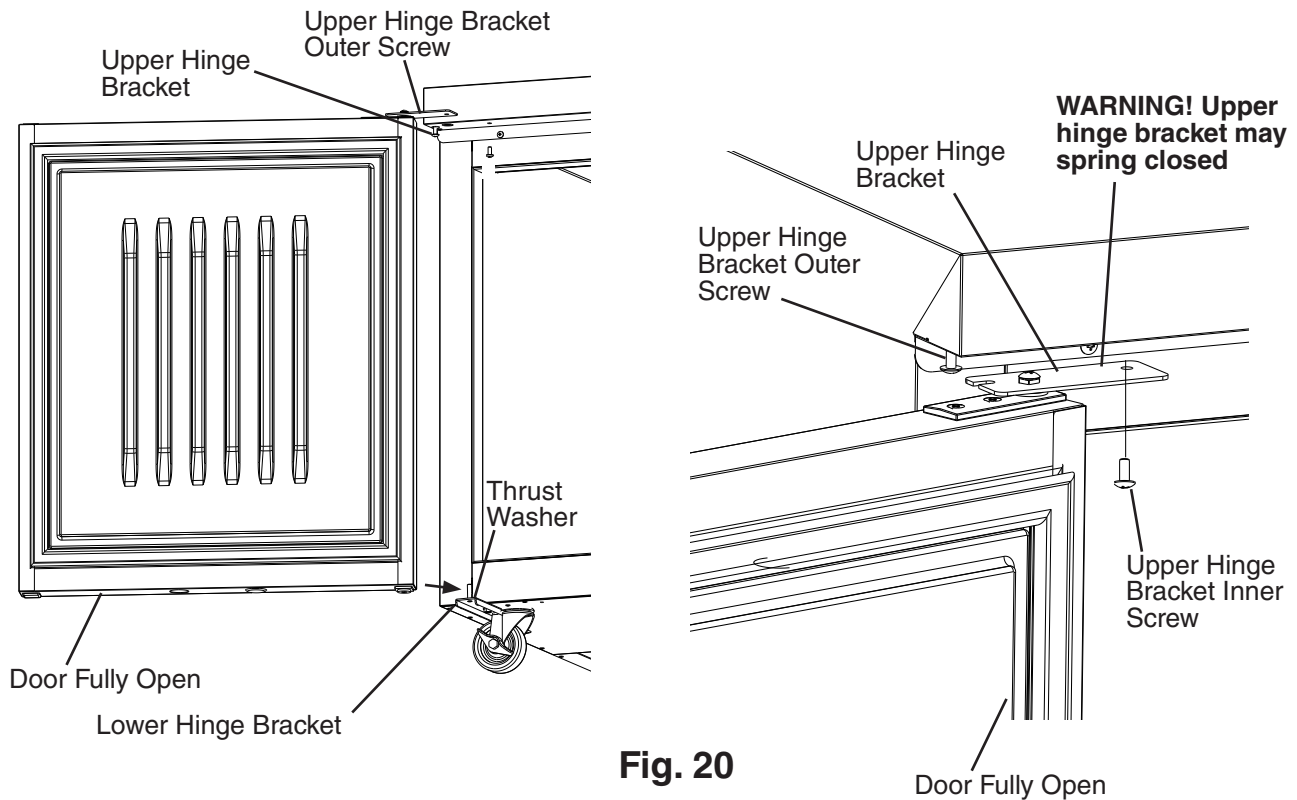

**Fig. 20**
- 14) Be sure the lower hinge bracket thrust washer is in place, then place the door on the lower hinge bracket in the fully open position. Slide the door upper hinge bracket outer slot onto the upper hinge bracket outer screw. See Fig. 20.